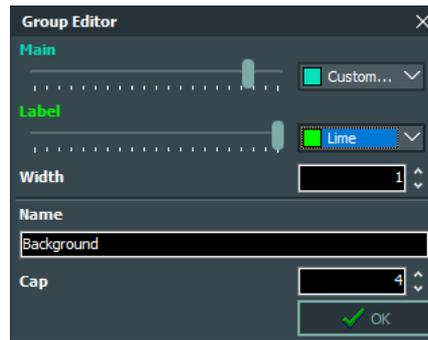

Figure 6.6: Group editor
-  In order to deal with groups invoke the **Group editor** (Fig. 6.6) using the edit button.